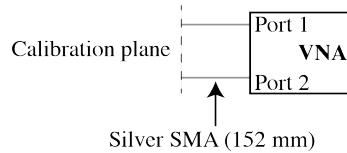

Figure 3: Calibration setup.
2. (Lab) Connect both silver cables to the VNA. See fig. 3 for the corresponding setup.